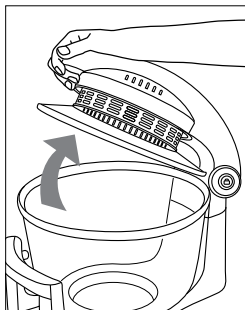

Fig 1
- Pull up to open the lid (Fig 1). The lid will be locked at the open position when it is fully open.